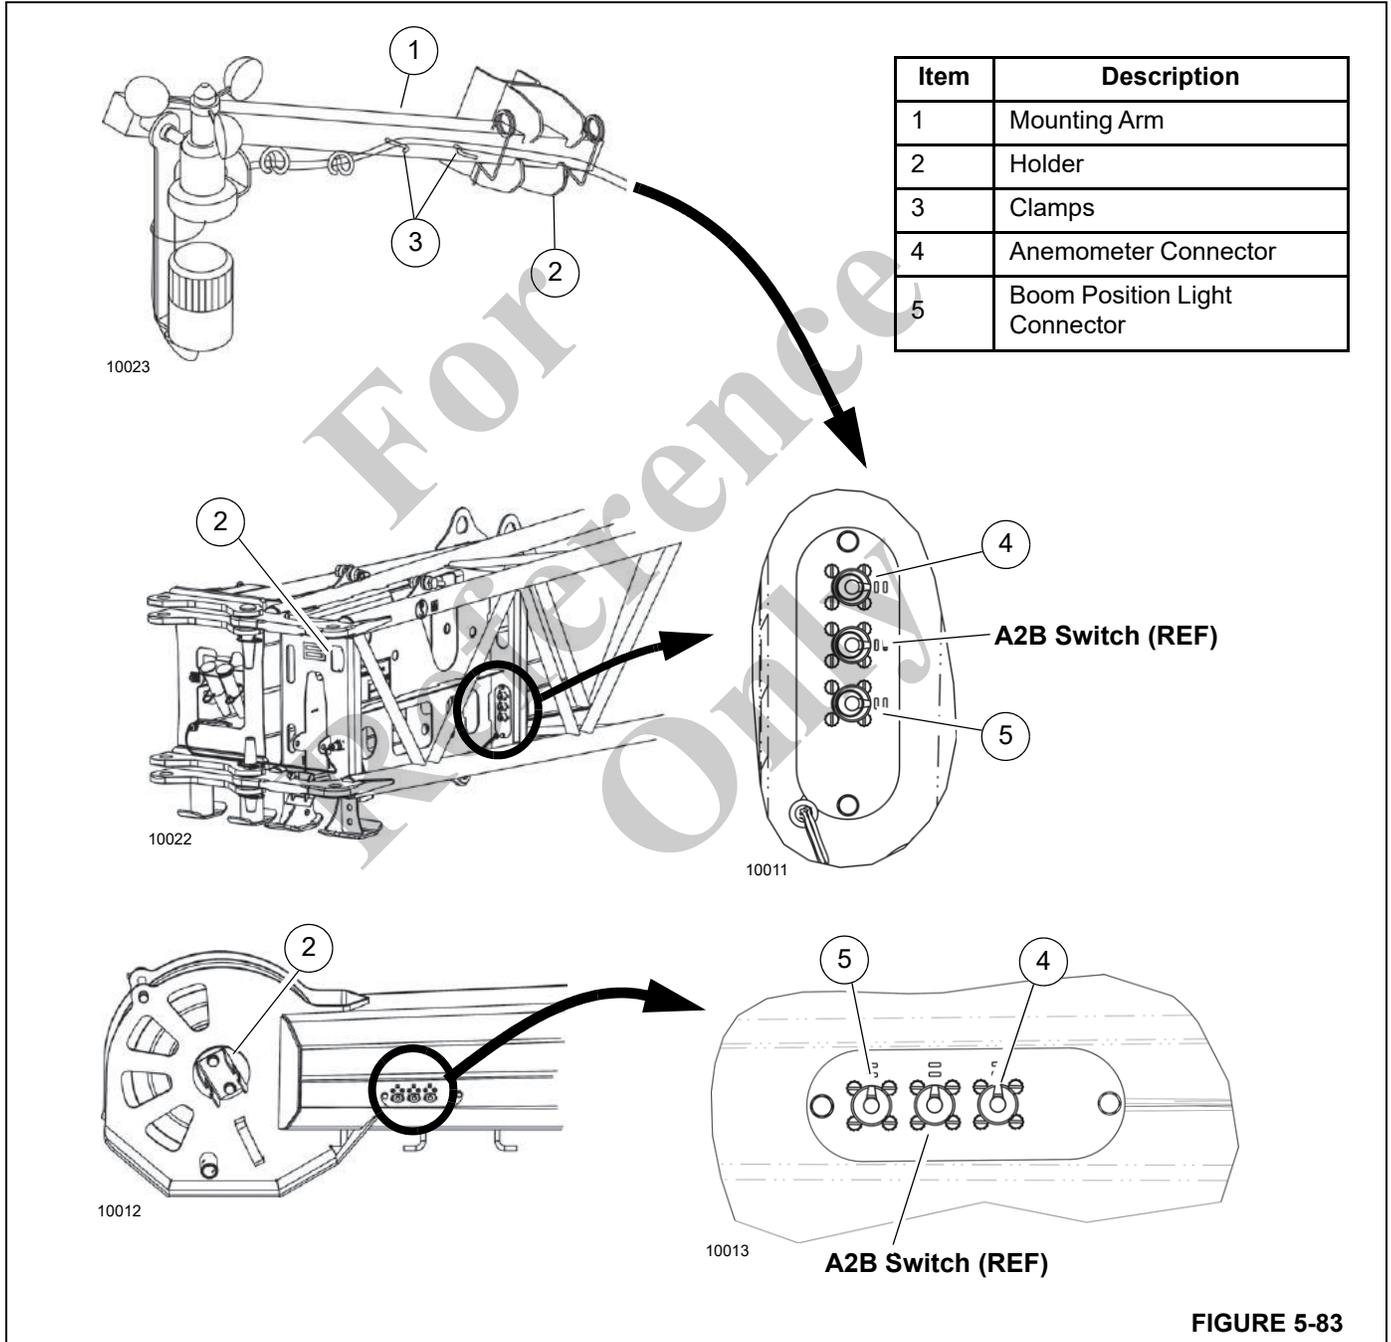

FIGURE 5-83
1. Insert the mounting arm (1, Figure 5-83) into the holder (2) and secure it with the retaining clips.
2. Remove the cable from the clamps (2).
4. Connect the anemometer cable to the connector (4).
5. Connect the boom position light cable to the connector (5).
1. Take the plugs out of the connectors (4 and 5, Figure 5-83) and install the protective caps.
2. Wind the cable onto the clamps (3).
3. Remove retaining clips and the mounting arm (1) from the holder (2).
4. For transportation, fasten the retaining clips to the mounting arm (1).